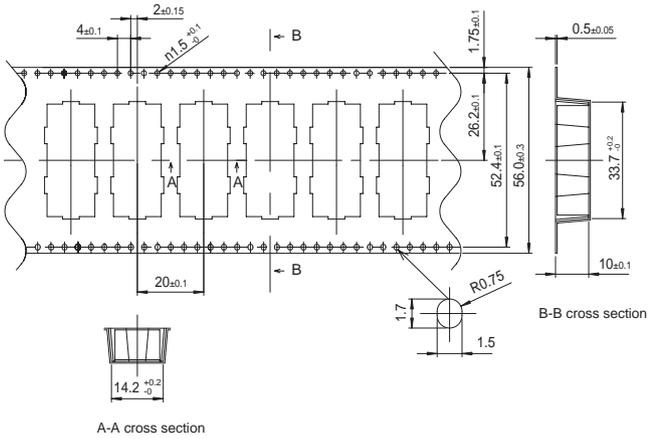

Fig.9.1 Taping dimensions of BRFS30
- Please refer to a Fig.9.1 to Fig.9.3 for Package form (Reel).